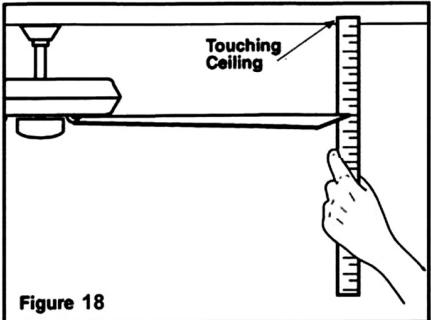

Figure 18
2. Most fan wobble problems are caused when blade levels are unequal. Check this level by selecting a point on the ceiling above the tip of one of the blades. Measure from a point on the center of each blade to the point on the ceiling. Measure this distance as shown in Figure 18. Rotate the fan until the next blade is positioned for measurement. Repeat for each blade. Measurements deviation should be within $1/8"$. Run the fan for 10 minutes.